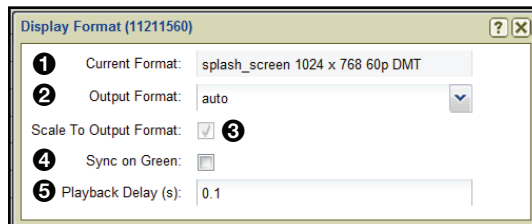
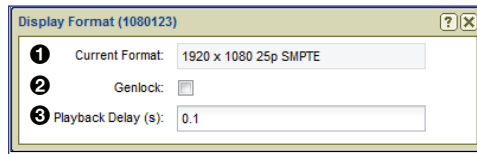

Figure 38. VN-Matrix 200/225 Display Format Dialog Box
Figure 39. VN-Matrix 3xx Series Display Format Dialog Box
When a decoder device is selected, click **Format** (see figure 31 on page 43) to open the **Display Format** dialog box used to configure the output format of a decoder (see figure 38). The menu differs slightly depending on the selected VN-Matrix device.
- ④ **Sync on Green (SoG) (VN-Matrix 200/225 only)** — When selected, this check box (see figure 38 on page 53) enables Sync on Green on the output analog waveform. When SoG is enabled, separate horizontal and vertical syncs are present on the analog output.
The VN-Matrix 3xx series display format dialog box (see figure 39) shares two configuration options with the VN-Matrix 200/225 (see figure 38).